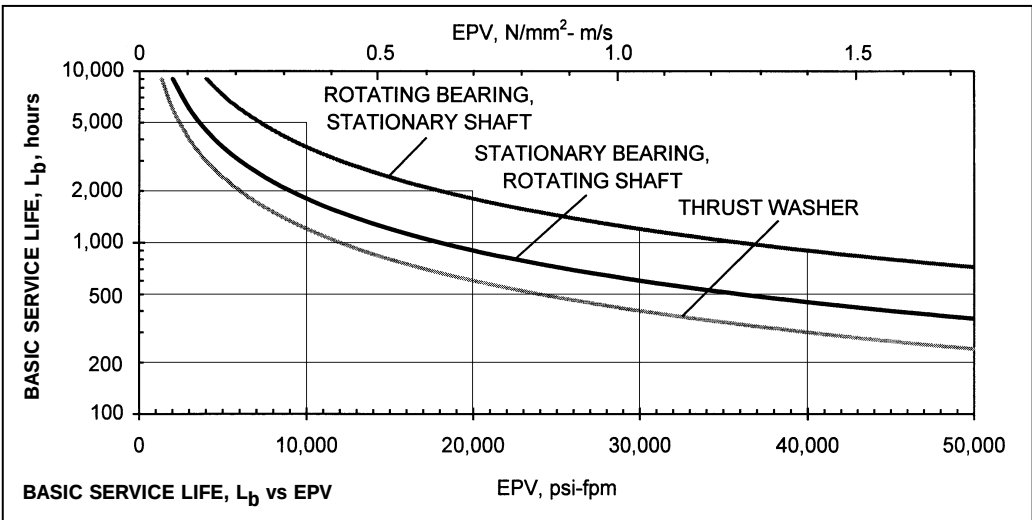

Figure 4-5. DU Basic Service Life in Hours
Figure 4-5 shows the basic service life in hours, assuming normal room temperature conditions, normal running clearances, and good heat dissipation of a well-proportioned bearing operating against low carbon steel with a surface finish of 16 microinches (0.4 micrometers). The following graphs and tables describe major factors affecting DU bearing life.
The calculated EPV factor, as described on page 4-6, is used to determine the basic DU bearing service life L_b . The estimated bearing life L_{DU} is calculated by applying various service factors to the basic service life L_b . Refer to Figure 4-5 and select the type of bearing, and then read the basic service life based on the calculated EPV. Now you can estimate DU bearing life.
- L_b = DU basic service life, hours, Figure 4-5
- L_b = for linear sleeve bearings use stationary bearing, rotating shaft basic service life, Figure 4-5; for linear slideways use thrust washer basic service life, Figure 4-5